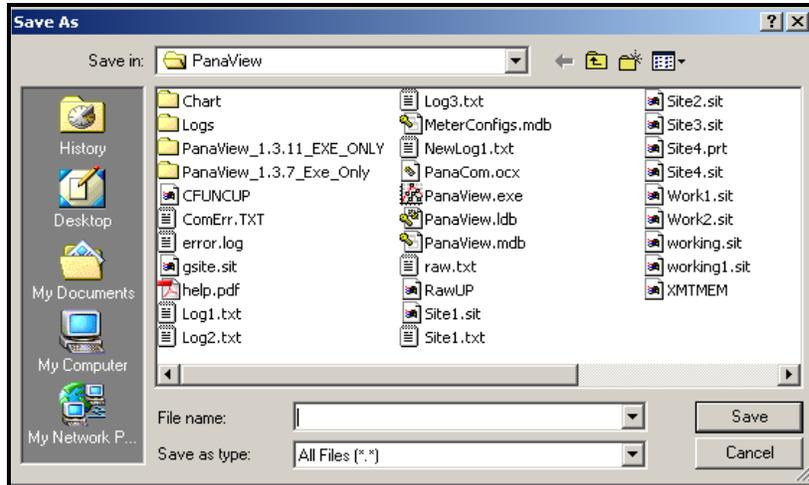

Figure 13: Saving Signal Array Data to File
- If you double-click on *To File*, another window opens similar to *Figure 13* below. Enter a file name and click [Save]. PanaView stores the array data in a Windows file, and closes the *Calibration/Test* window.
- If you double-click on *To File*, the *Save As* window (similar to *Figure 13 on page 51*) opens. Enter a file name and click [Save]. PanaView stores the array data in a Windows file, and closes the *Calibration/Test* window.